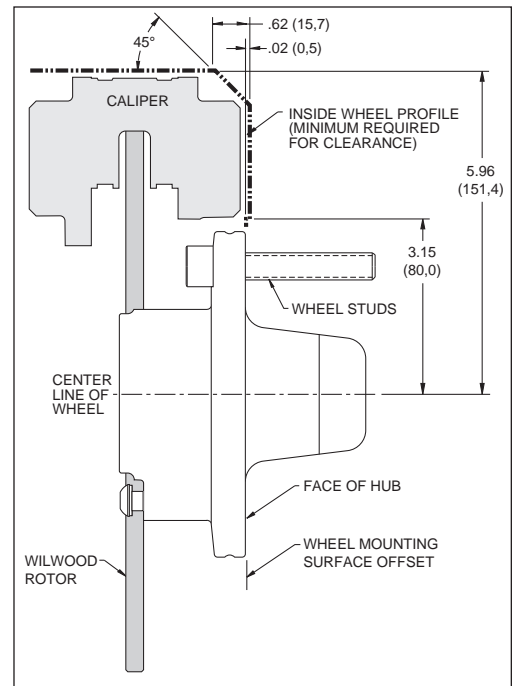

Figure 3. Wheel Clearance Diagram
- Review the wheel clearance diagram (figure 3, page 3) to verify that there is adequate clearance with the wheels you will be using with the installation.
- Verify your wheel clearance using Figure 3.